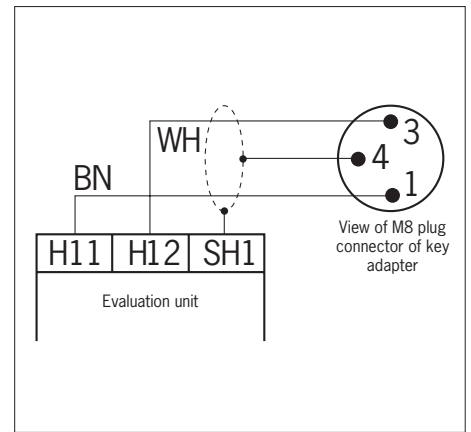

Figure 1: Terminal assignment
- ▶ For terminal assignment, see Figure 1.